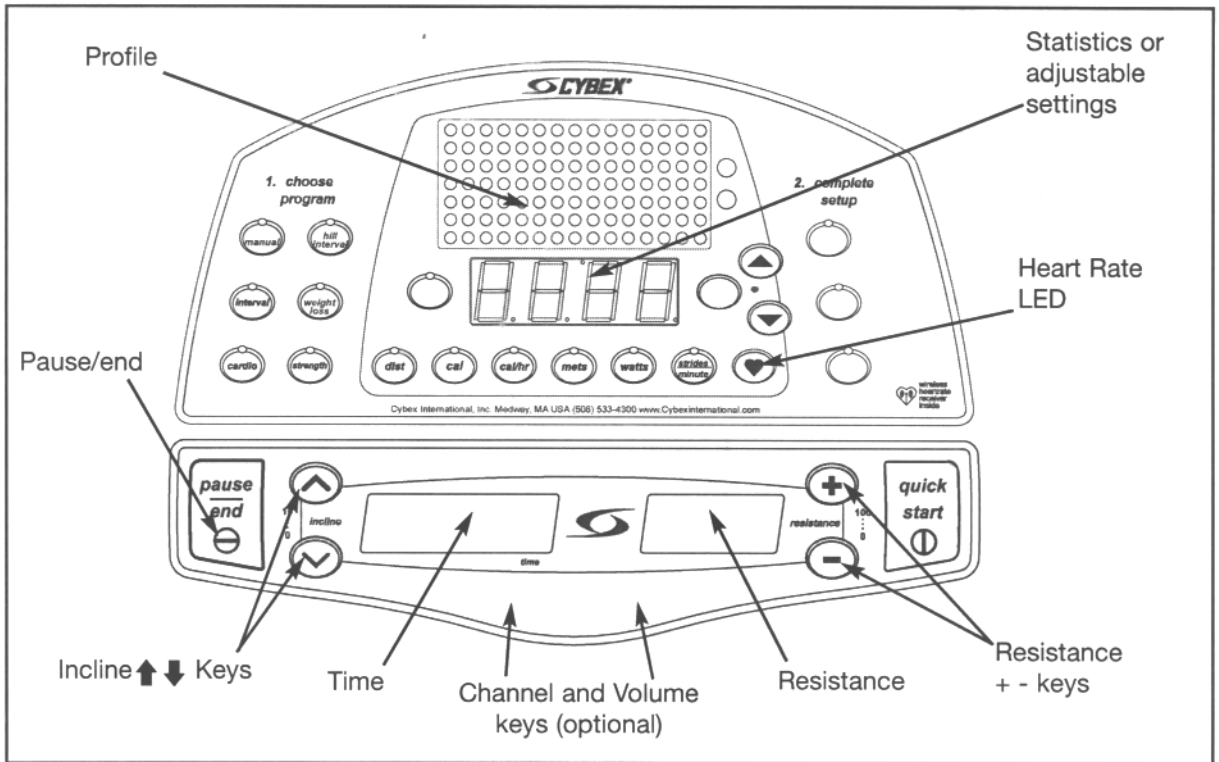

Figure 1
5. The unit begins a countdown, "3...2...1" and sounds a tone for each count. When it reaches one (1) it gives a longer tone. Depending on which program and level you selected, the resistance may begin to increase and the incline may rise or fall.
6. Observe the four displays (See Figure 1):
NOTE: Heart Rate is scanned only when you are holding the contact heart rate grips or using Polar compatible heart rate transmitter. See Figure 1.